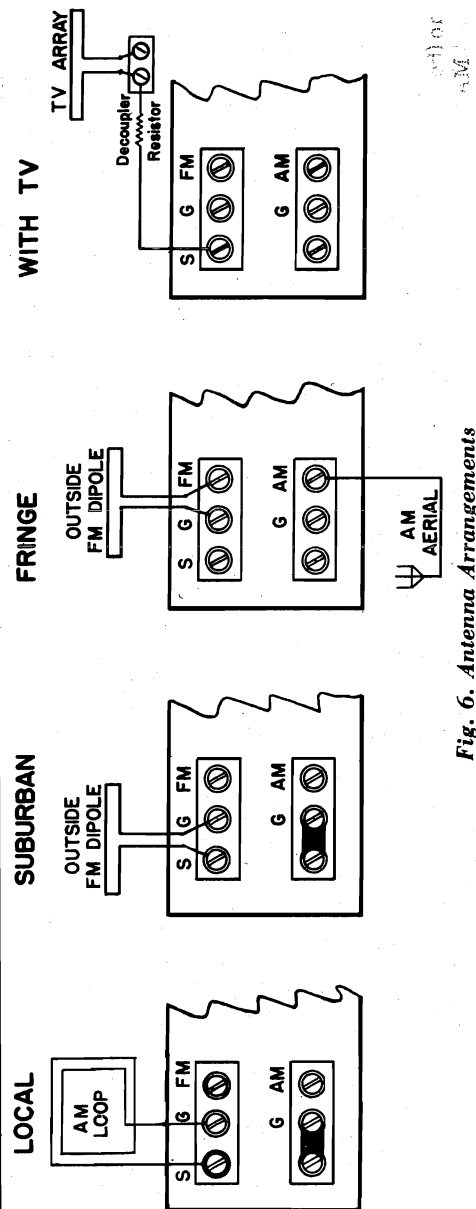

Fig. 6. Antenna Arrangements
**ANTENNA** - Several antenna arrangements are possible for use with the C10 as shown in Figure 6 and the best arrangements will depend on the particular installation. The various antenna arrangements make use of AM